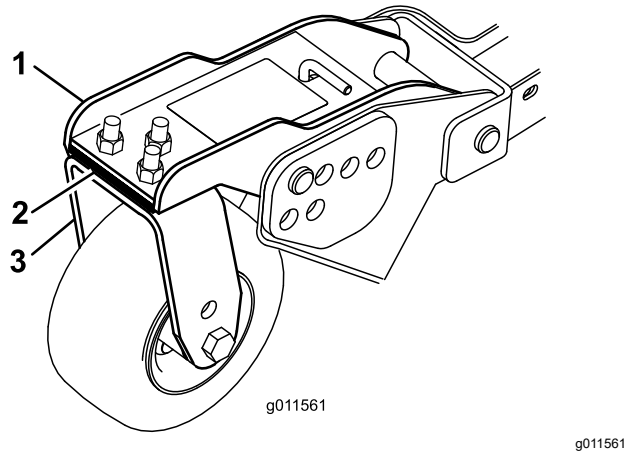

Figure 30
3. Adjust the shims (3 mm or 1/8 inch) on front caster arm(s) to match the height-of-cut decal (Figure 30).
3. If the inside edge of the side cutting unit is too high relative to the outside edge of the front cutting unit, remove a shim from the bottom of the front, inside caster arm on the side cutting unit (Figure 30).